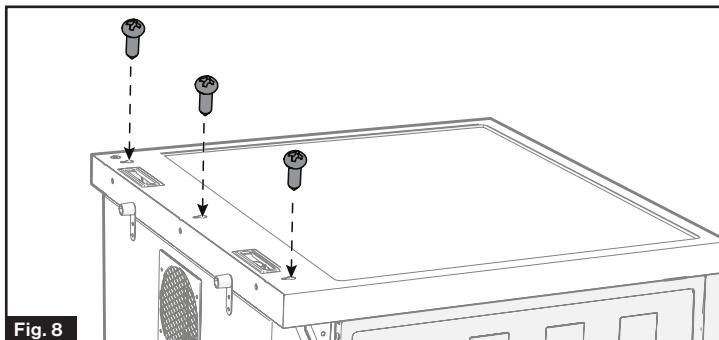

Fig. 8
1. Have three screws (M4*12mm, included) pre-installed at the rear side of the range and leave 3mm untightened. (Fig. 8)